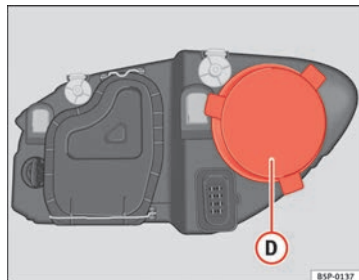

Fig. 188 Side lights
- Remove the cover ⇒ fig. 188 **D** by pulling on this.